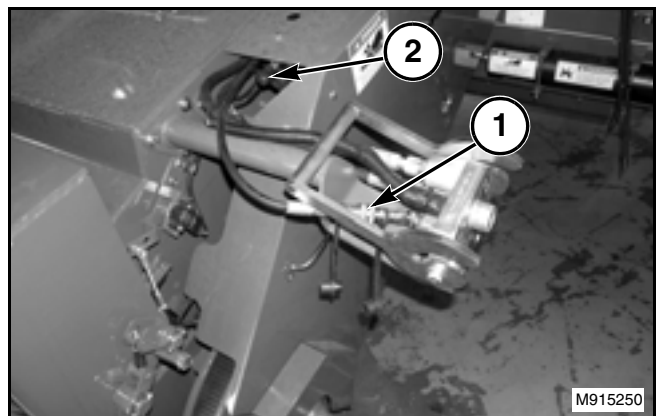

FIG. 47
FIG. 47: If a corn head is going to be attached to the machine, disconnect the reel lift quick coupler (1) and connect the female quick coupler to the male coupler (2) for the header variable speed sheave.